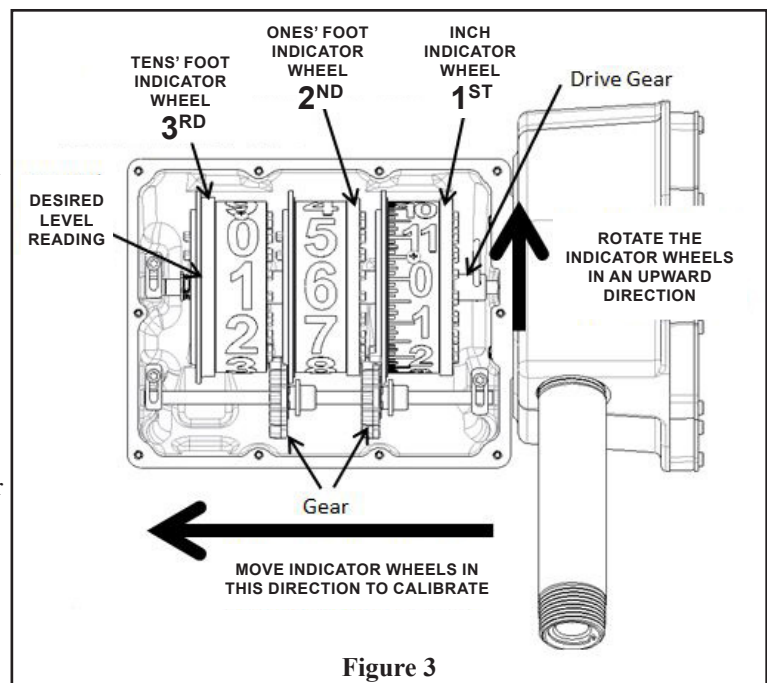

Figure 3
13. Now the gauge can be calibrated to the liquid level you found in step 4. Calibration is done one indicator wheel at a time (See Figure 3). Start with the inch indicator wheel. Grab the indicator wheel and push it to the left to clear the drive gear. The inch indicator wheel must be fully disengaged from the drive gear. The indicator wheel should now freely rotate. Rotate the wheel UPWARDS so that the numbers are counting up.
14. Calibration for the foot readings is done in a similar manner pushing the indicator wheels to the left so they clear the gears that are offset below the indicator wheels (See Figure 3.) Calibrate the ones' foot indicator wheel and then the tens' foot indicator wheel. **Note: desired level readings need to be in the center of the viewing window.**